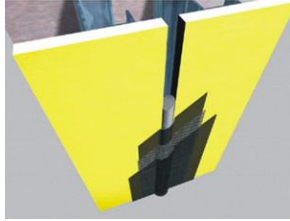

Figure 15
- c. Using a brush or 3/4 in (19 mm) nap roller, apply a liberal coat of AquaFlash Liquid material to the backer rod and adjacent substrate surface to the width of the AquaFlash Mesh – Figure 15.